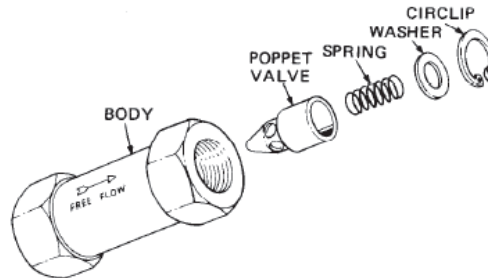

Figure 14 Check Valve – Exploded View
42. The check valve monitors the fluid pressure across the flow control valve and ensures a constant fluid pressure in the line to the hydraulic motor (Figure 14). Free flow through the check valve occurs at a pressure differential of 34 kPa (5 psi).